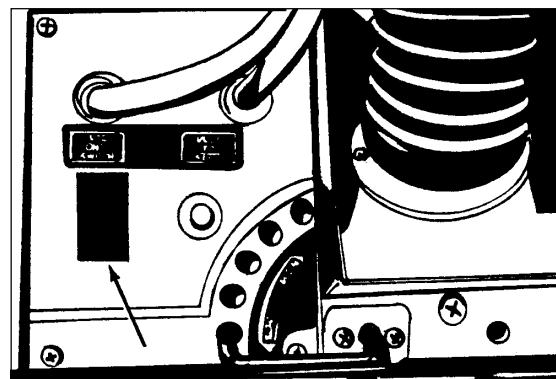

Figure 3
2. Press the "Vac Only Switch." See Figure 3.